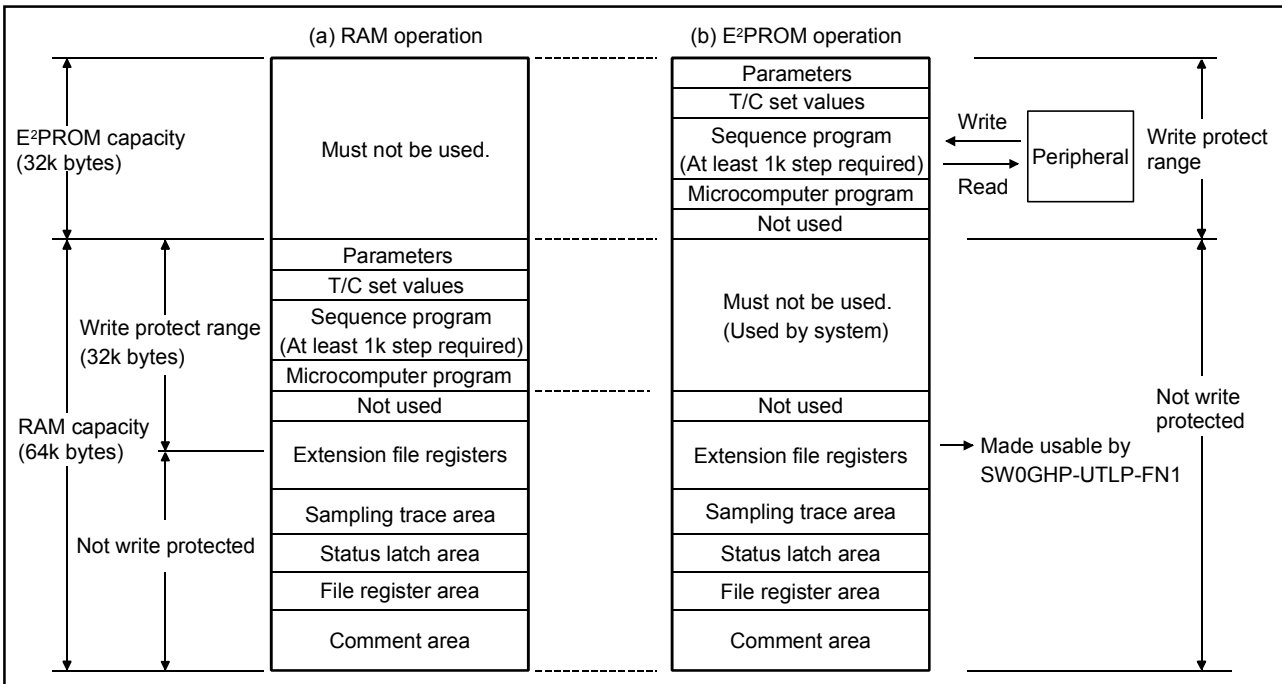

Fig. 2.2 Sequence of Data Storage into User Memory
- (2) Sequence of data storage into user memory
- (a) Various data set in parameters are stored in the sequence shown in Fig. 2.2.
- 1) In Fig. 2.2, parameters occupy 3k bytes and T/C set values 1k byte. 1 to 14k steps (2 to 28k bytes) can be set to the sequence program.